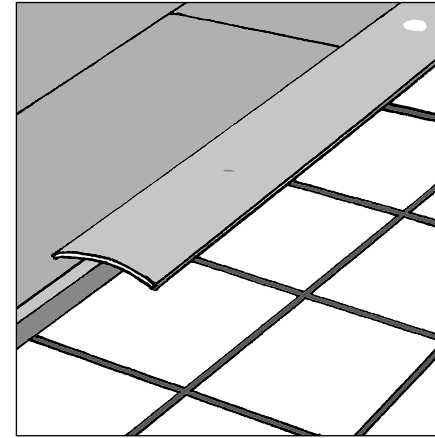

Figure 6.19 Threshold strip
6.27.9 Installing across multiple rooms (Figure 6.19)